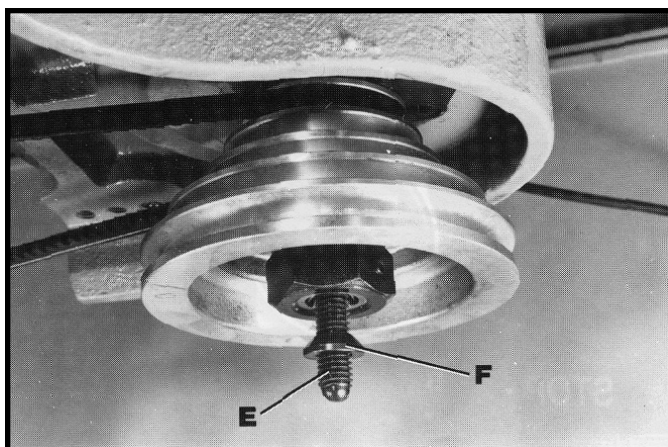

Fig. 34
8. Open the cabinet door and assemble the special bevel washer (F) to the bottom of the draw bar (E), as shown in Fig. 34. The bevel washer (F) was removed from the draw bar in STEP 4.